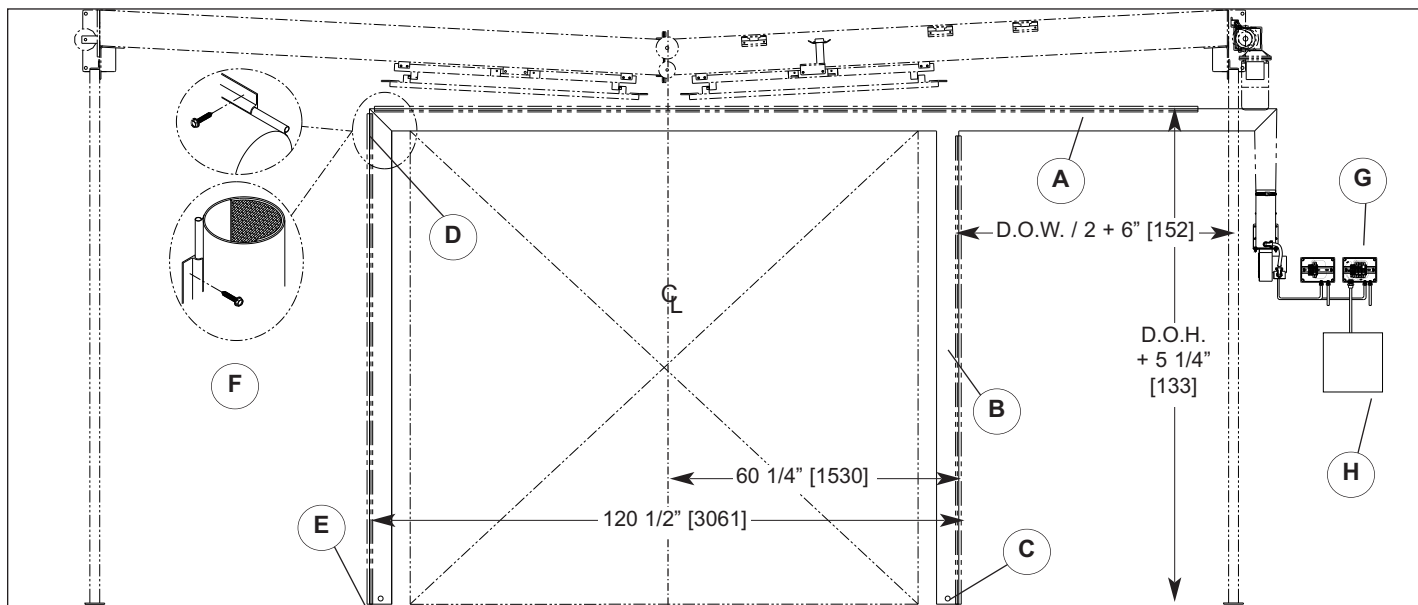
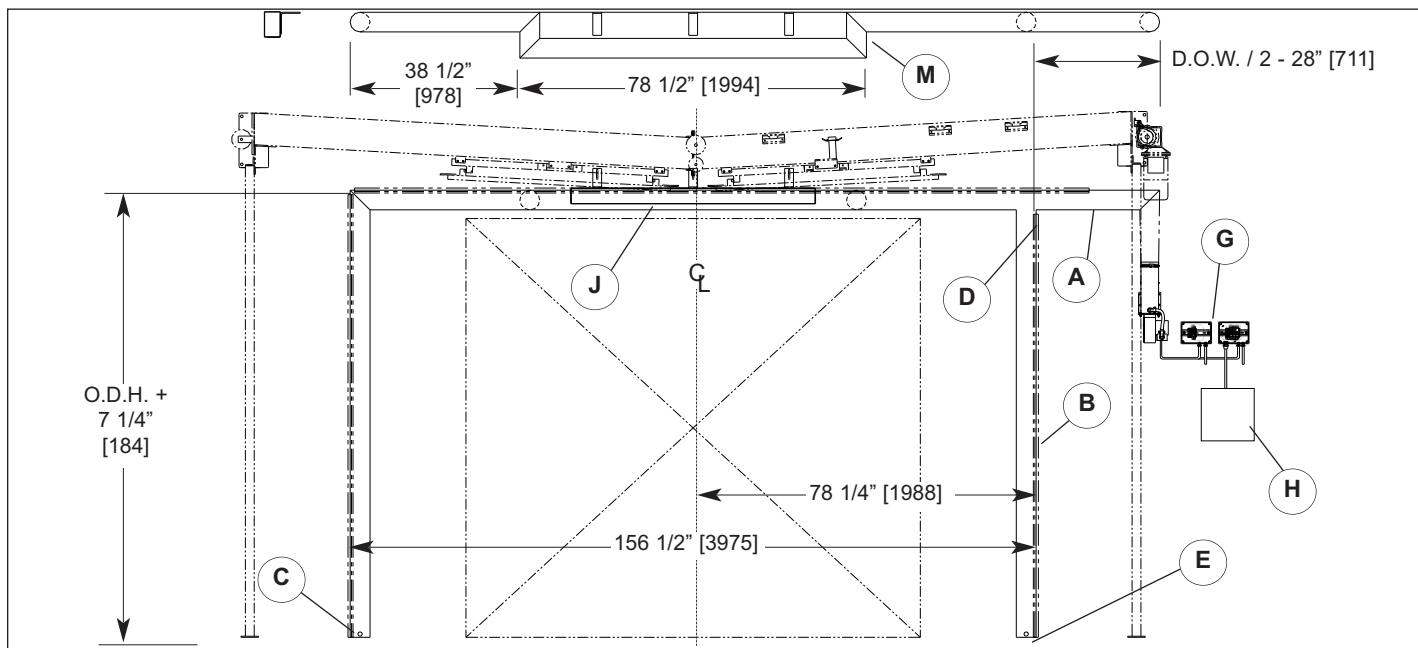
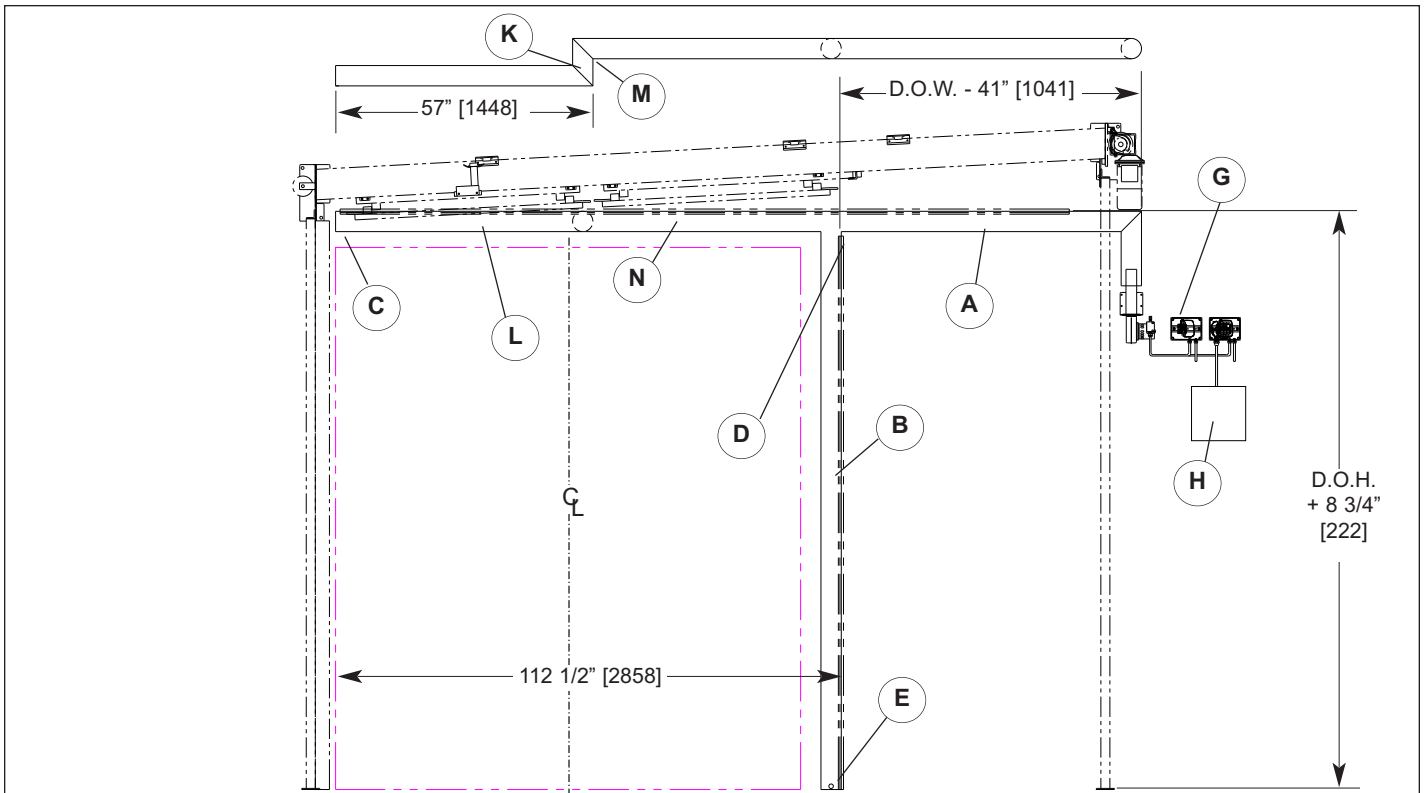

Figure 11.1 - 2 Panel
Figure 11.2 - 4 Panel
Figure 11.3 - Single Slide
1. Place a mark on the center of the lintel seal. Align with the centerline mark of the door jamb and the chalk line snapped at O.D.H. plus 7 1/4" [184], **Figure 11.2**.
1. Align the top of the aluminum Lintel Seal at O.D.H. plus 8 3/4" [222] at the snapped chalk line and tight against the side panel, **Figure 11.3**.
1. Lay thermal air seal (O) assembly on the floor. The extended section (A) with short 90° bend will be on the drive side, **Figure 11.1 - 2P**, **Figure 11.2 - 4P** and **Figure 11.3 - SS**.